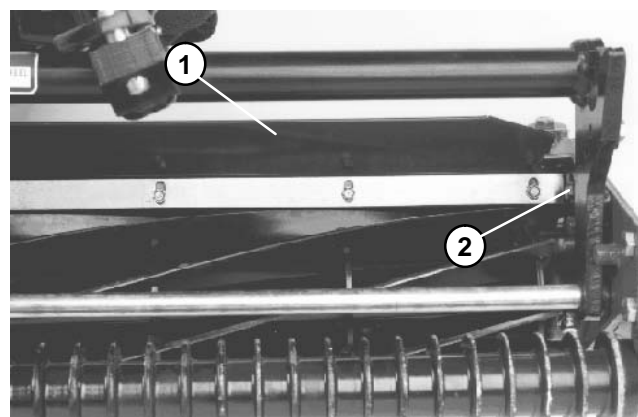

Figure 13
2. Loosen cap screws and nuts securing shield to each side-plate, adjust shield to correct height and tighten fasteners (Fig. 13).